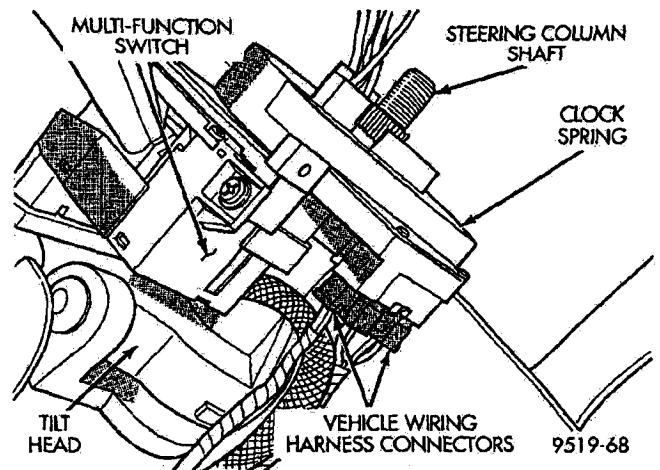

Figure 4
16. Disconnect the wiring harness connectors from the clockspring assembly (Figure 4).
19. Connect the wire harness connectors to the clockspring assembly (Figure 4).